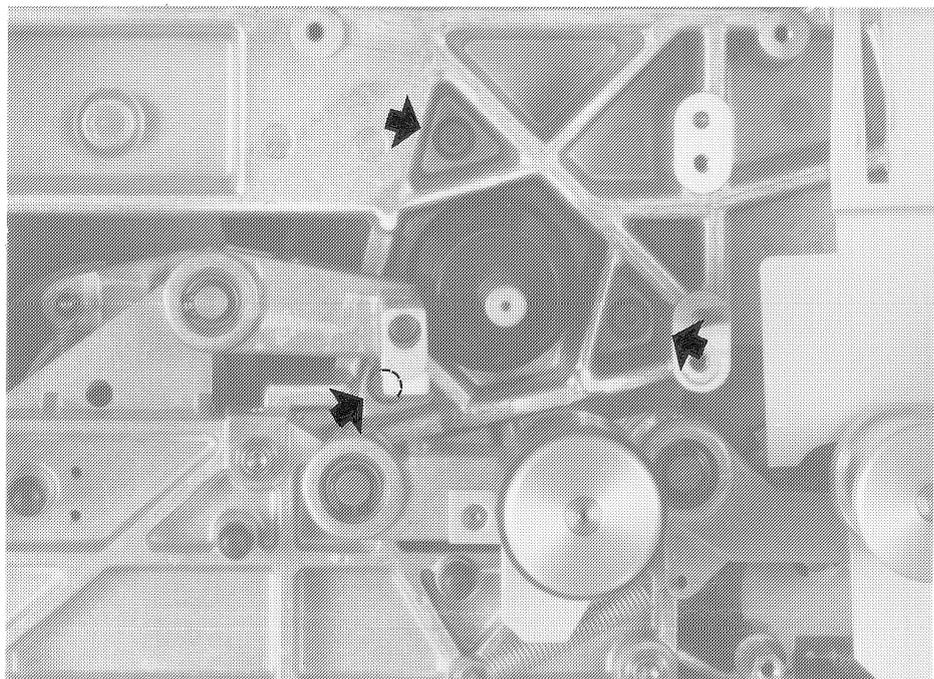

Fig. 56 Removing the capstan motor
- Unfasten the three special 3 mm hexagon-socket-head screws while supporting the motor from the bottom, see fig. 56